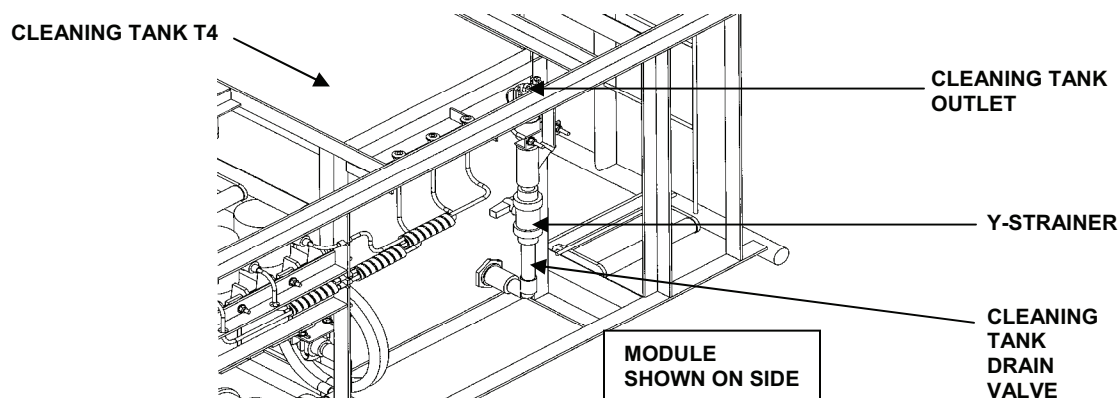
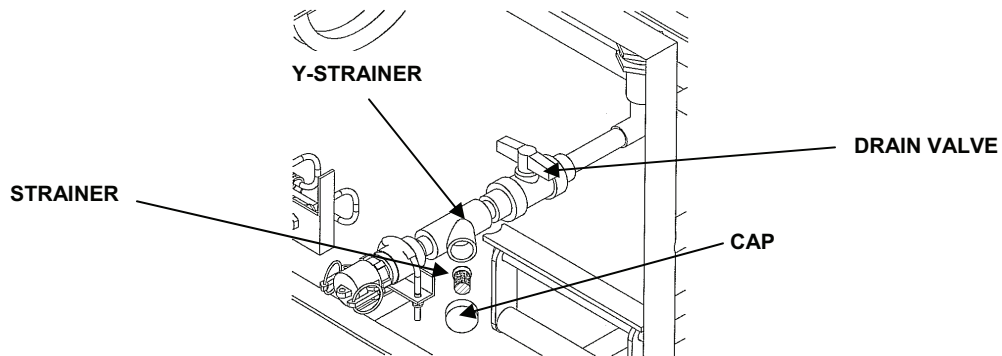

Figure 1. Y-Strainer Location.
Figure 2. Y-Strainer.
4. Ensure cleaning tank drain valve is closed. See Figure 1. Remove plug from Y-strainer. Remove mesh screen. See Figure 2.
- Clean the strainer screen in the Y-strainer with clean water. Observe for debris. Install mesh screen and plug into Y-strainer. See Figure 2.
- Connect the backwash pump suction hose to the cleaning tank outlet. See Figure 1.